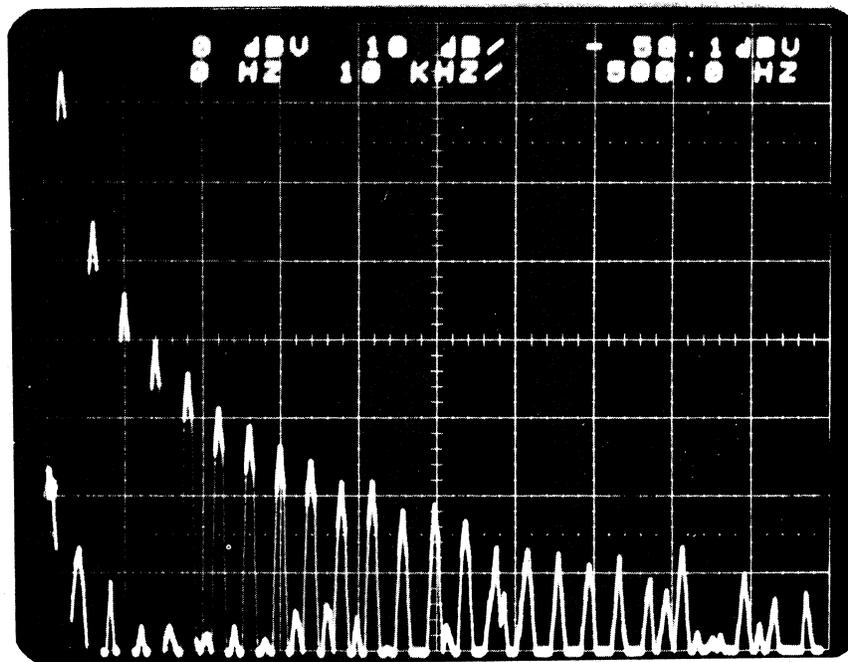
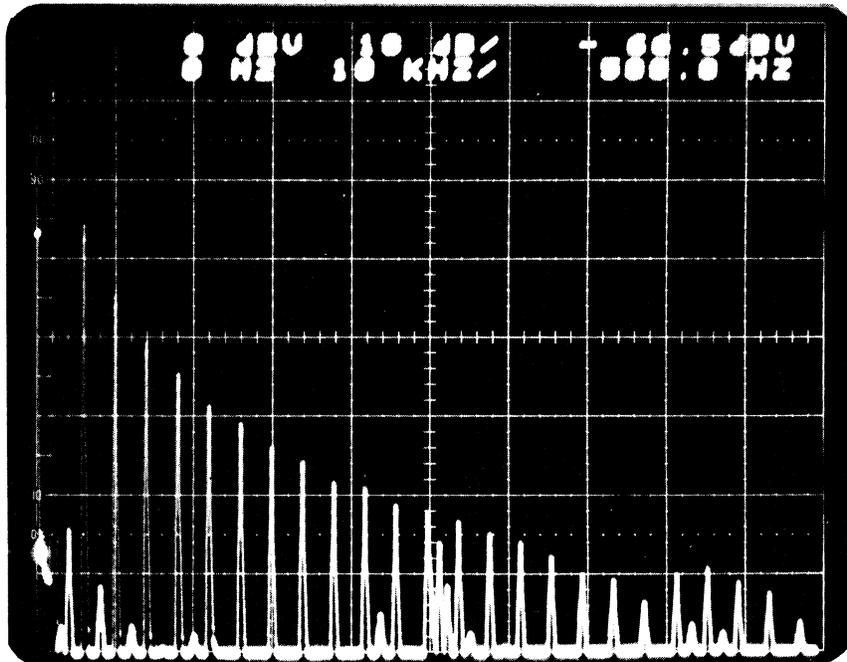

Fig. 4-16a Spectrum of Triangle Waveform when Triggering Source is in Free Run
Fig. 4-16b Spectrum of Triangle Waveform when Triggering Source is in Input Sig
- a. Rotate LEVEL/SLOPE so pointer is at twelve (12) o'clock and set SOURCE toggle switch to INPUT SIG. Spectrum display will appear frozen (Fig. 4-16a). Rotate LEVEL/SLOPE clockwise until spectrum display updates and each spectral component narrows (Fig. 4-16b), then rotate the knob back to the twelve (12) o'clock position.